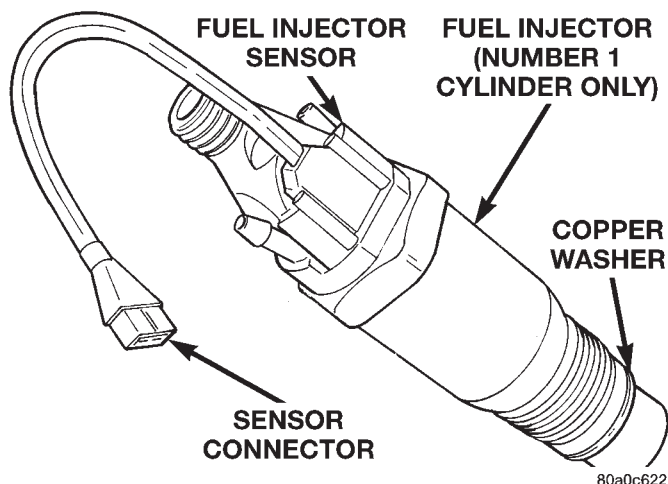

Fig. 42 Fuel Injector Sensor—Number-1 Cylinder
Four fuel injectors are used on each engine. Of these four, two different types are used. The fuel injector used on cylinder number one is equipped with a fuel injector sensor (Fig. 42). The other three fuel injectors are identical. **Do not place the fuel injector equipped with the fuel injector sensor into any other location except the cylinder number one position.**
(6) Remove and discard the copper washer (seal) at bottom of injector (Fig. 42).